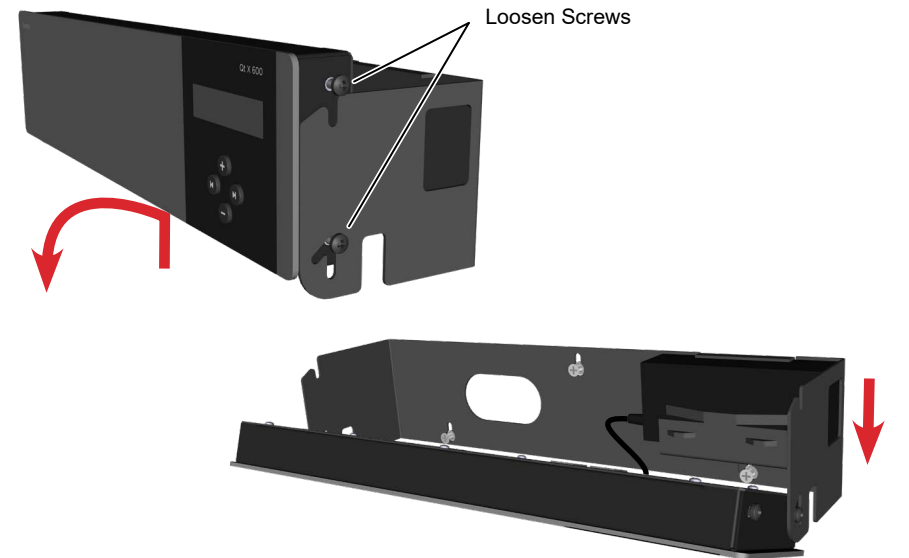

Figure 1. Mount unit / wall bracket
1. Place the wall mount where it is to be mounted and mark the hole locations. The control module hinges forward for wall mounting and cable installation. To hinge forward, loosen the screws on both sides, lift it up to disengage the top screws, and rotate forward as shown (Figure1).